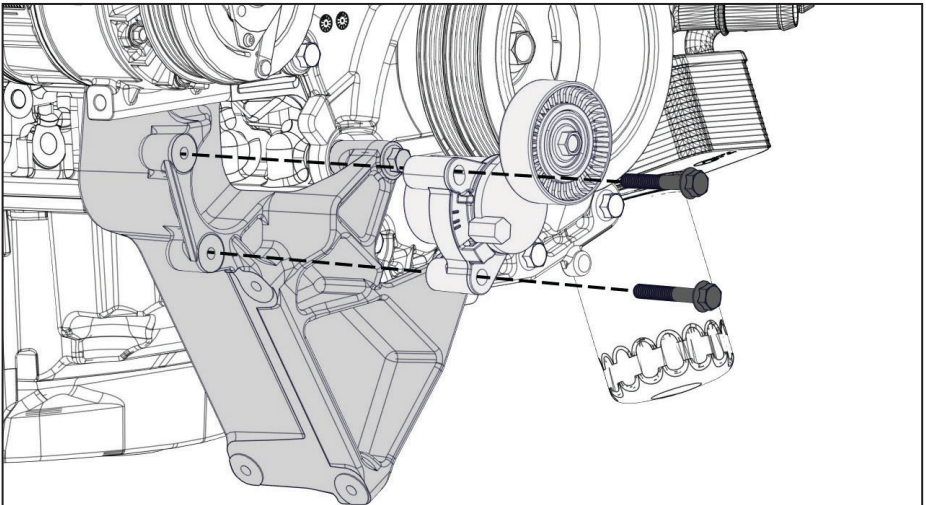

Figure 20 — Install tensioner
- Using (x2) M8 x 1.25 x 50 mm bolts, install the 4 rib belt tensioner onto the VMAC main bracket (Figure 20).